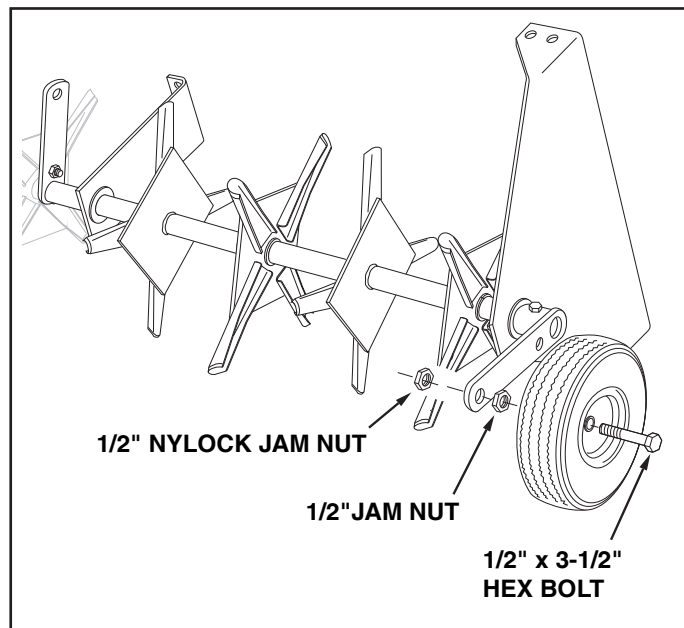

FIGURE 6
- Assemble a wheel to a wheel bracket using a 1/2" x 3-1/2" hex bolt, a 1/2" jam nut and a 1/2" nylock jam nut. Adjust the nuts so that the wheel is held securely but will spin freely. Repeat on other side. See figure 6.